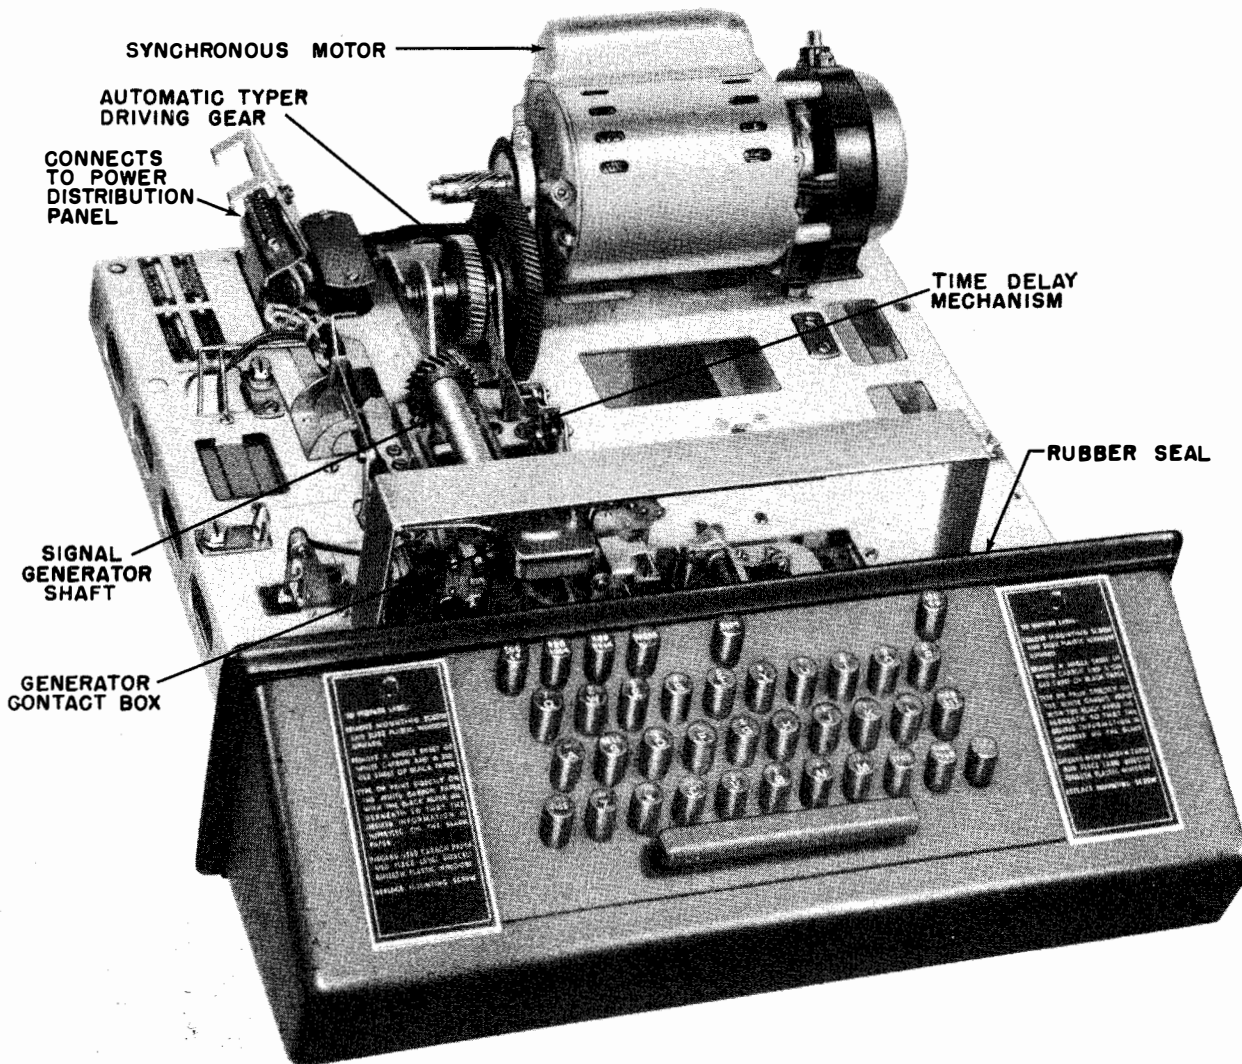

Figure 1-2. Keyboard MX-1114/UG, With Motor
a. KEYBOARD MX-1114/UG. (See figure 1-2.)—The Keyboard supports the AC Motor and the Automatic Typewriter, and incorporates code selecting and signal generating mechanisms. Signal line and power line circuits are also included. A delay mechanism for stopping the motor on extended idle periods of the signal line is connected in the Keyboard but may be disabled if not